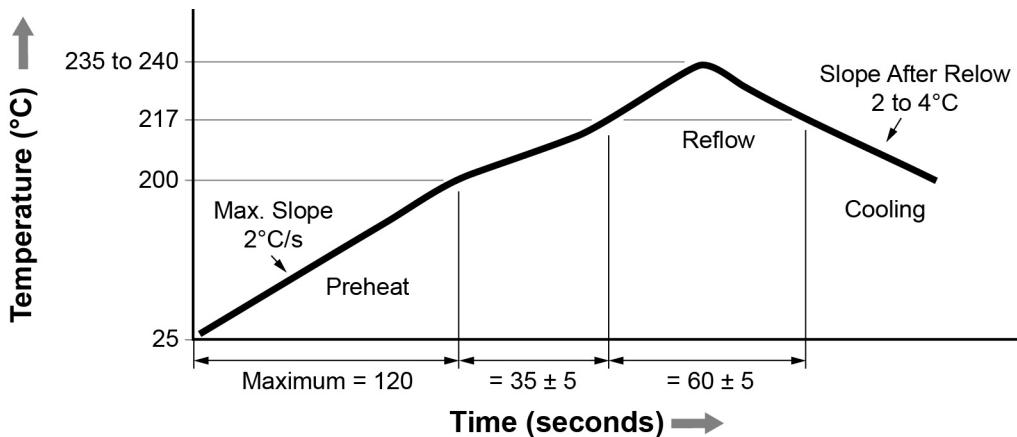

Figure 6.3 Reflow Profile for Pb-free Solder
13. Solder Reflow	See Figure 6.3.